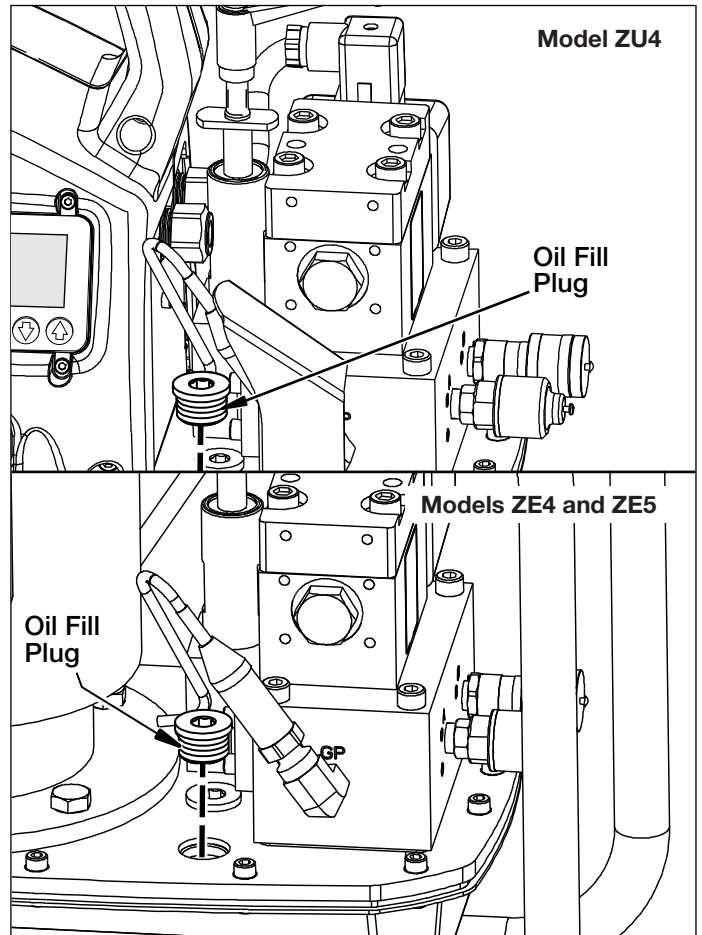
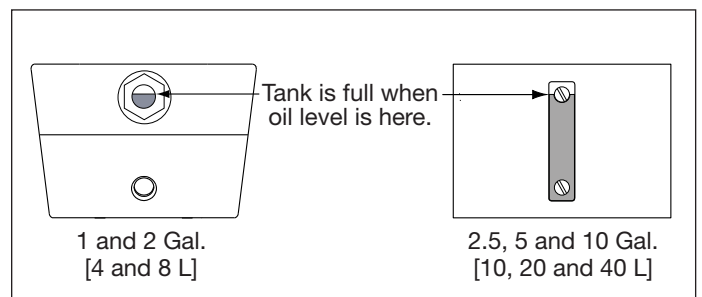

Figure 3, Oil Fill Plug
Figure 4, Oil Reservoir Sight Glass
4.3 Oil Level (See Figures 3 and 4)
Check the pump oil level prior to start-up. The reservoir is full when the oil level is as shown in Figure 4. If necessary, remove the oil fill plug from the cover plate as shown in Figure 3 and add oil as required.